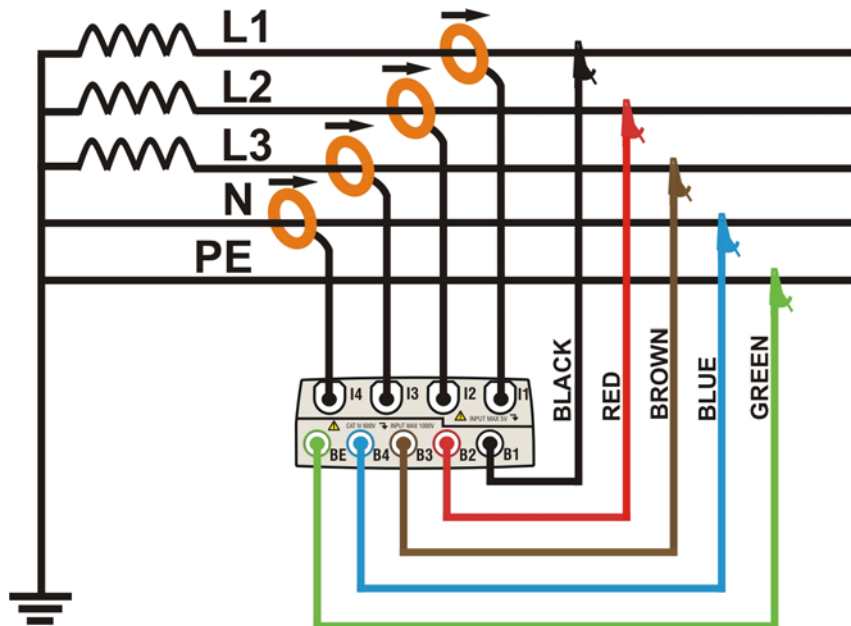

Fig. 186: Meter connection in a three phase 4-wire system
2. Connect voltage test leads on Phases L1, L2, L3, Neutral and Ground cables considering the colours as shown in Fig. 186. **Verify the result “123” at display relative to a correct phase sequence indication** (see § 5.2.1) and perform the corrections if necessary.
3. Connect the transducer current clamps on Phase L1, L2, L3 and Neutral N cables as shown in Fig. 186 respecting the clamp’s arrow direction indicating the current standard sequence from generator to load. **On Real Time Values’ section screens always verify the positive value of Active Power and the power factor relative to each load which should be normally inductive** before starting a recording. Reverse the clamp by 180 degrees on cables in case of negative readings.